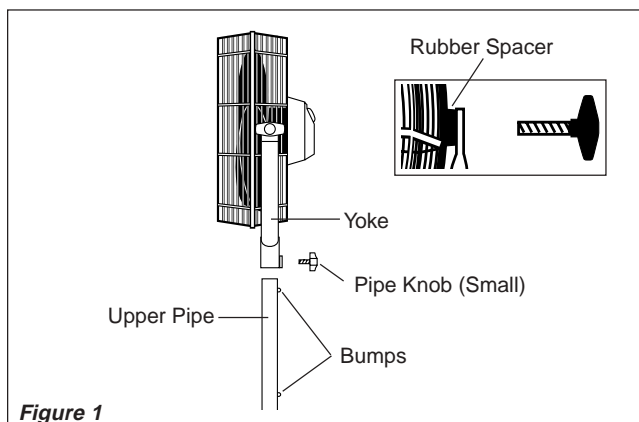

Figure 1
1. Lay Fan Head on flat surface, so the front side is facing down. Hold Yoke so the side with the nut is facing up. Loosely attach one Grill Knob and one Rubber Spacer to the Head Assembly. Attach the other Grill Knob and Rubber Spacer to the Head Assembly and FIRMLY tighten. Return to the first Grill Knob and FIRMLY tighten. *(Figure 1)*
2. Make sure Bump on Upper Pipe is aligned with formed section of Yoke. Insert Upper Pipe into Yoke. To ensure fit is tight, twist Upper Pipe until it is tight inside of Yoke. *(Figure 1)*